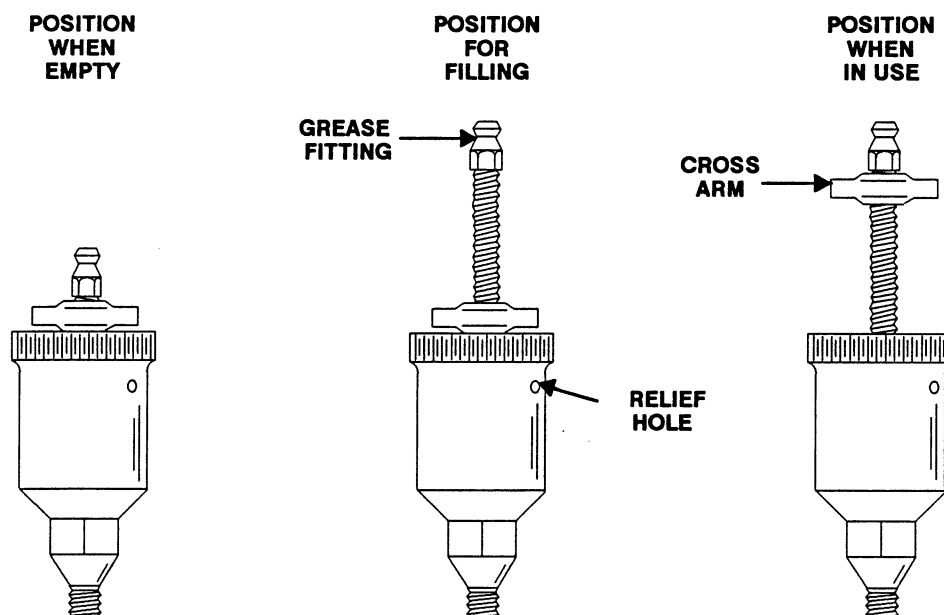

Figure 5. Automatic Lubricating Grease Cup
Before removing the impeller, turn the cross arm on the automatic grease cup (14) clockwise until it rest against the cover (see Figure 5). This will prevent the grease from escaping when the impeller is removed.
Fill the grease cup (14) through the grease fitting with No. 2 lithium base grease until grease escapes from the relief hole. Turn the grease cup arm counter-clockwise until it is at the top of the stem; this will release the spring to apply grease to the seal (see Figure 5).